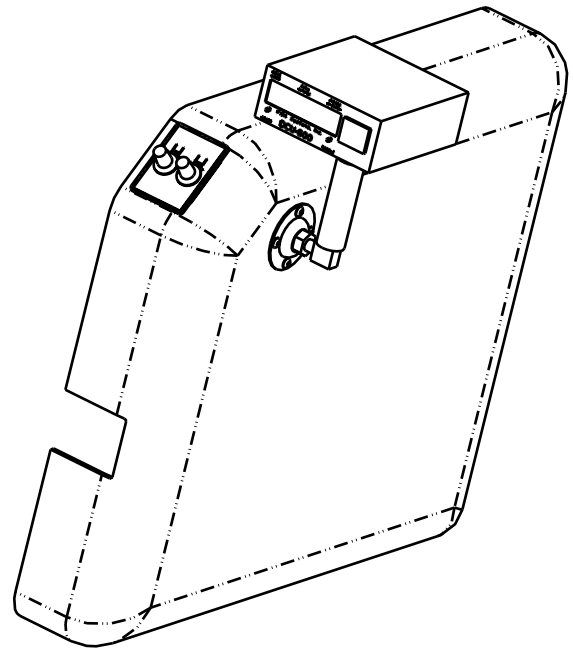

Figure 5
9. Remove the thumb screw on the top section of the mounting post and insert the mounting post on the bottom of the counter fully into the hole. Reinstall and tighten the thumb screw in the top section of the mounting post(Figure 5).